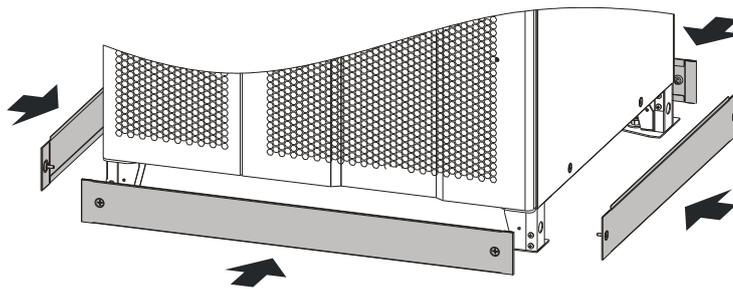

Figure3-16 Install bottom cover plates
- Step 5 Take out the bottom cover plates and install them to the front, rear, left and right with provided screw M6, as shown in Figure3-16. (Here take the PS400KVA as an example.)